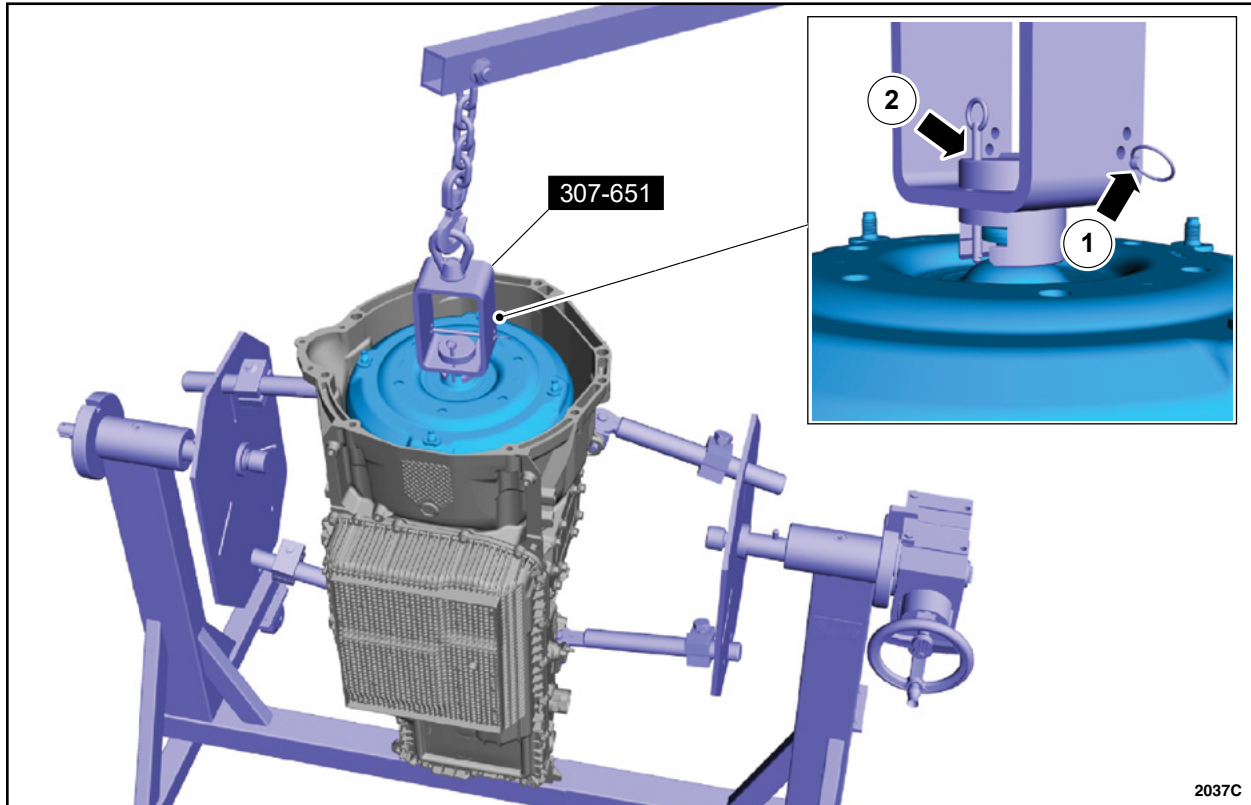

FIGURE 35
37. Using special tool 307-651 and a floor crane, install the torque converter. See Figure 35.